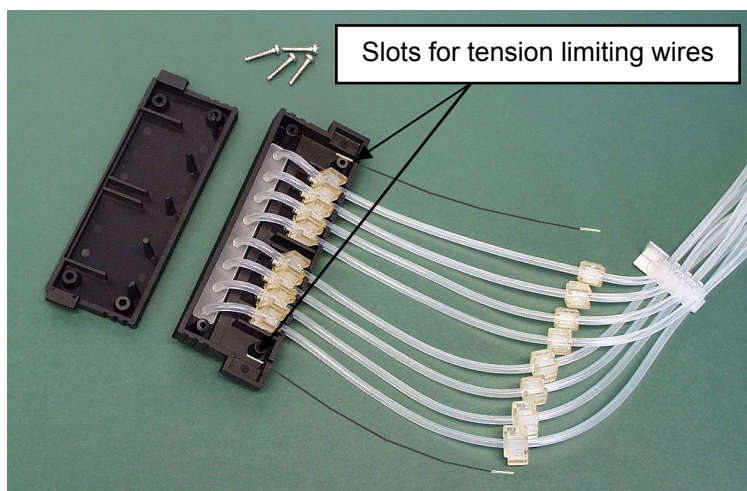

Fig. 7.19 Tension limiting wires attached
4. Attach the tension limiting wires into their slots (Fig. 7.19).